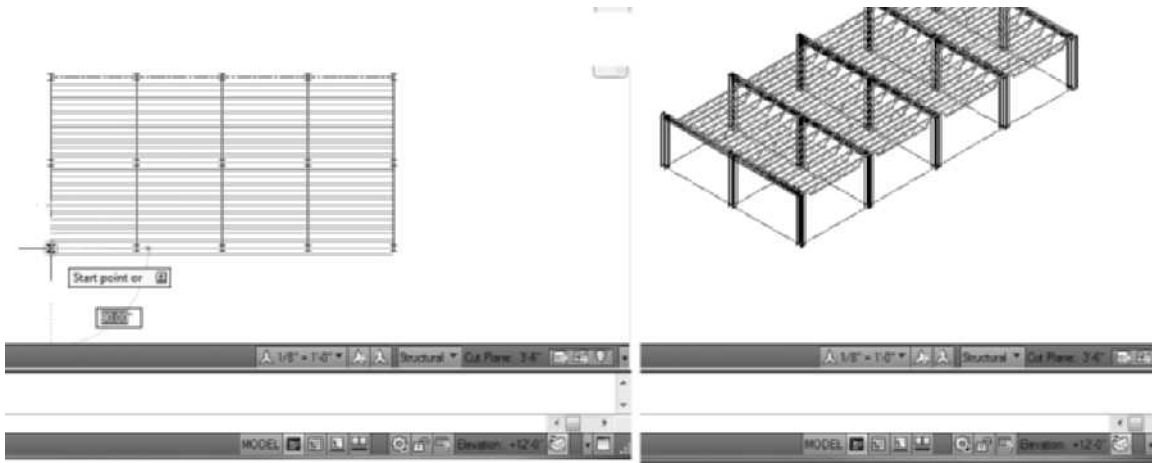

FIGURE 13.27 Insert joists using Fill Layout
21. Move the cursor over the grid and press CTRL to toggle the display of the joist so that all bays are filled as shown at left in Figure 13.27. Click to accept the display and place the joist throughout the column grid. Press ESC to end the command.
22. Choose SW Isometric from the View Cube to view the joist as shown at right in Figure 13.27.